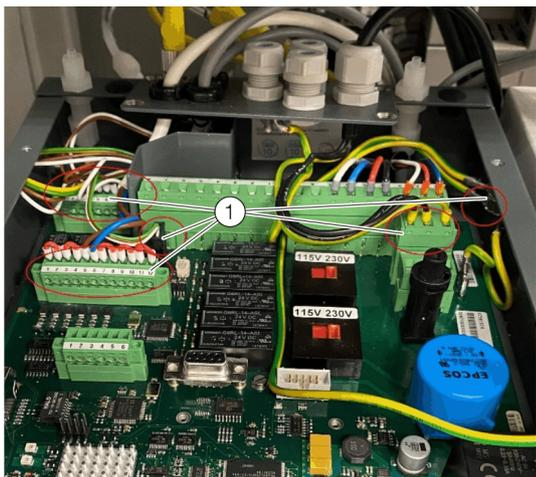

Figure 57: Electrical connections SCC-F
2. Plug the connectors into the circuit board. Make sure that the connections are all correct (Figure 57). Secure the connectors with the safety screws. Make sure that the PE to the connection plate is properly connected.